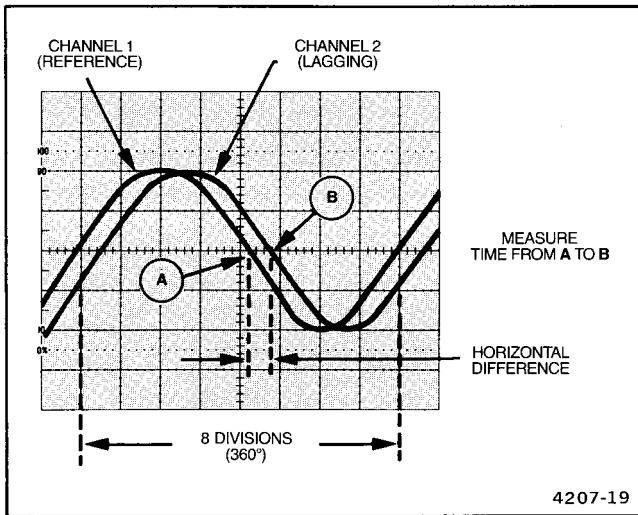

Figure 3-8. Phase difference.
9. Position the displays and adjust the SEC/DIV variable (CAL) control so that one cycle of the reference signal occupies exactly eight horizontal graticule divisions at the 50% rise-time points (see Figure 3-8). Each horizontal division of the graticule now represents 45° of the cycle (360° divided by 8 divisions), and the horizontal graticule calibration can be stated as 45° per division.
EXAMPLE. In Figure 3-8, the horizontal difference is 0.6 division with a graticule calibration of 45° per division.
If the sweep speed were increased 10 times (MAG set to X10), the magnified horizontal graticule calibration then would be 4.5° per division (45°/division divided by 10). Figure 3-9 shows the same signals illustrated in Figure 3-8, but horizontally magnified by a factor of 10.